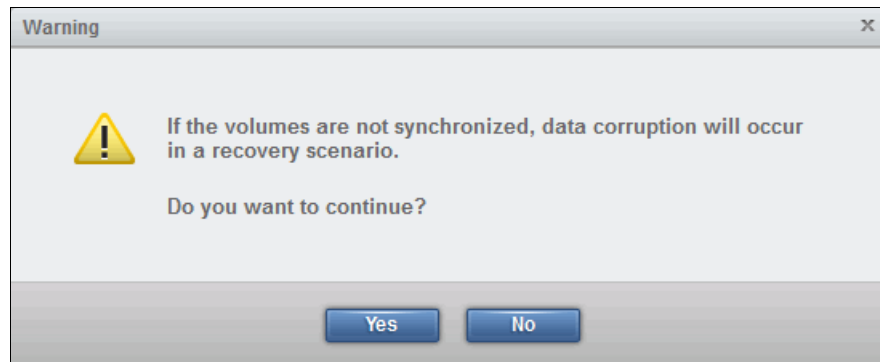

Figure 10-104 Warning message to make sure that the volumes are synchronized
- If you select **Yes, the volumes are already synchronized**, a warning message opens, as shown in Figure 10-104. Confirm that the volumes are truly identical, and then click **OK** to continue.